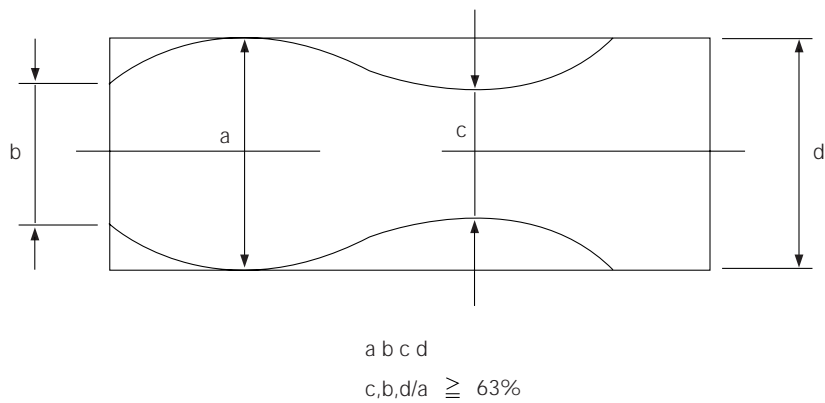

Fig. 2-14 Envelope Waveform Adjustment
- 3) Make sure the video envelope waveform (at its minimum) meets the specification shown in Fig. 2-14.